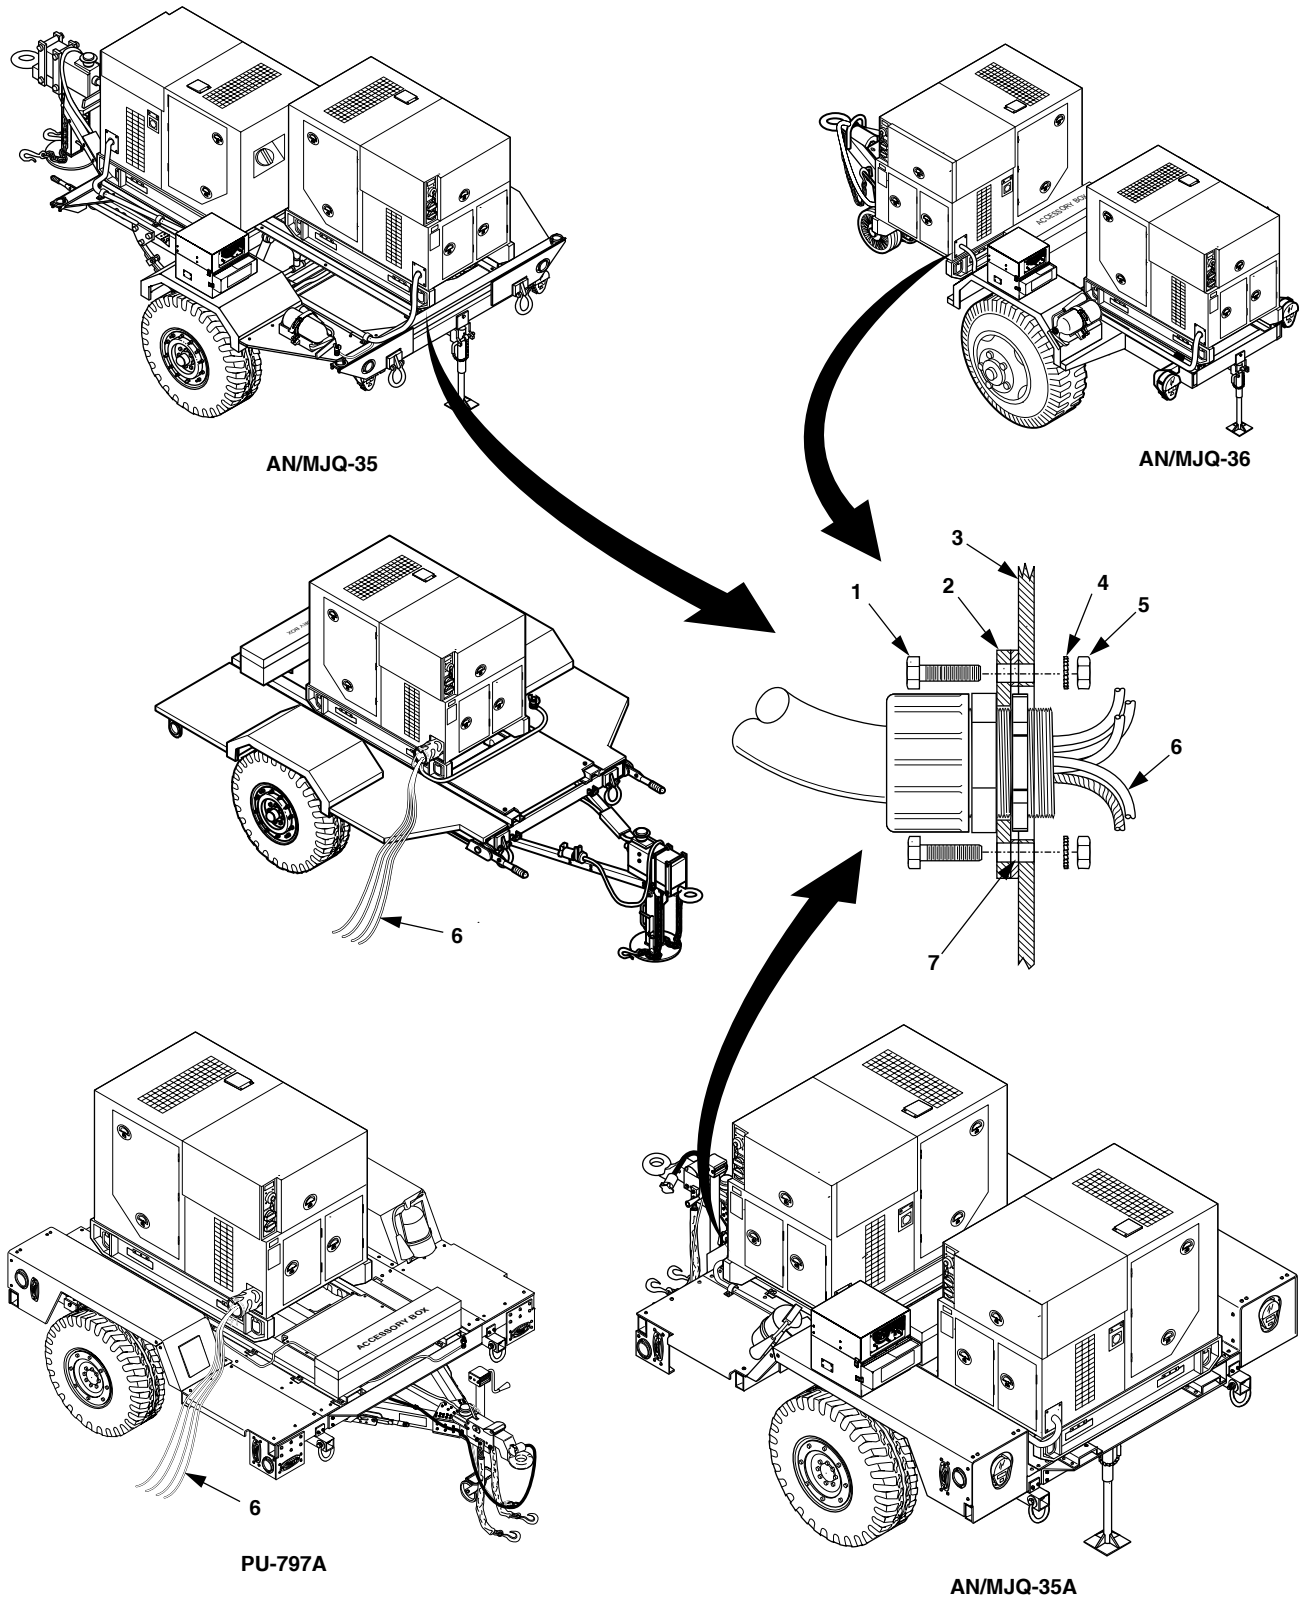
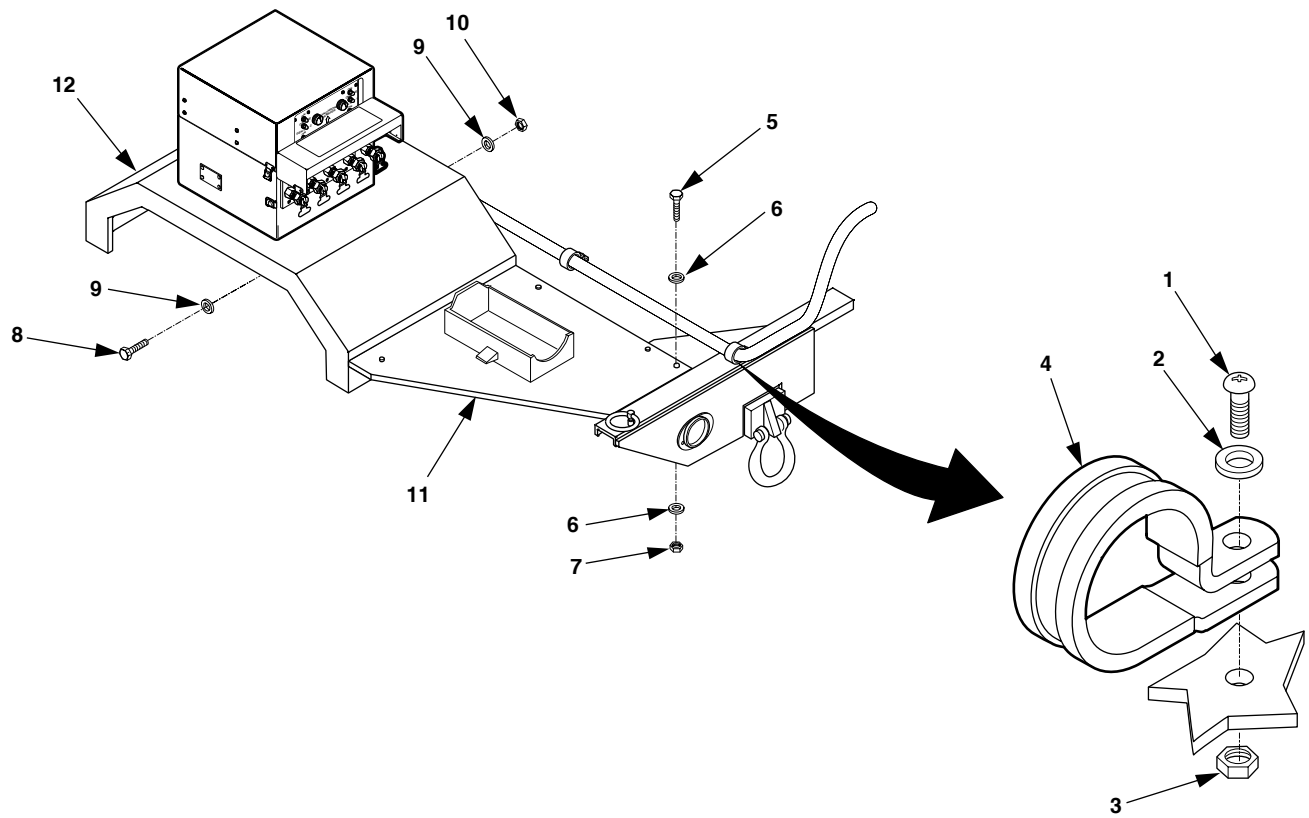

Figure 5-5. Power/Load Cable Removal.
Figure 5-6. AN/MJQ-35 Roadside Fender Assembly Removal.
1. Remove four nuts (5, figure 5-5), lock washers (4) and cap screws (1) from generator output plate (2).
2. For AN/MJQ-35, AN/MJQ-35A and AN/MJQ-36, carefully pull generator output plate (2) away from generator set housing (3). For Power Plants and Power Unit, pull until power cable leads and ground cable (6) are free of generator set housing (3). Remove and retain gasket (7).
3. Remove four nuts (3, figure 5-6), flat washers (2), and screws (1) from cable clamps (4).
4. Remove three nuts (7), six flat washers (6), and three screws (5) from inboard edge of splash guard (11).
5. Install four screws (8, figure 5-6), eight flat washers (9), and four self-locking nuts (10) in fender (12).
6. Install three screws (5), six flat washers (6), and three self-locking nuts (7) in inboard edge of splash guard (11).
7. Install cable clamps (4), screws (1), flat washers (2), and self-locking nuts (3).
9. Position generator output plate (2, figure 5-5, AN/MJQ-35, AN/MJQ-35A and AN/MJQ-36 only) with gasket (7) against generator set housing (3). Secure with four cap screws (1), lock washers (4), and nuts (5).
10. Refer to TM 9-6115-641-10 and connect power cable ends (6) to generator set load terminals as follows: